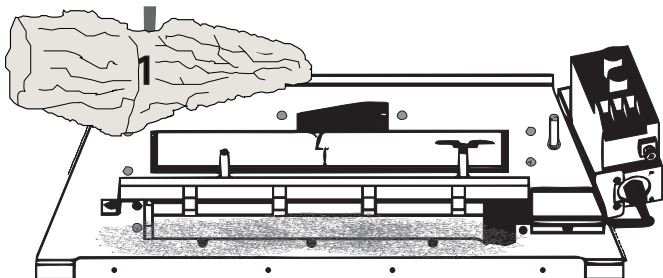

Figure 6.20 - Log #1 Placement
2. Place Log #1 on the left-hand side of the burner assembly by positioning the pin locator hole onto the log pin on the left-hand side of the burner. When in place, make sure the flat back side of the log is flush against the back of the burner assembly. See Figure 6.20.